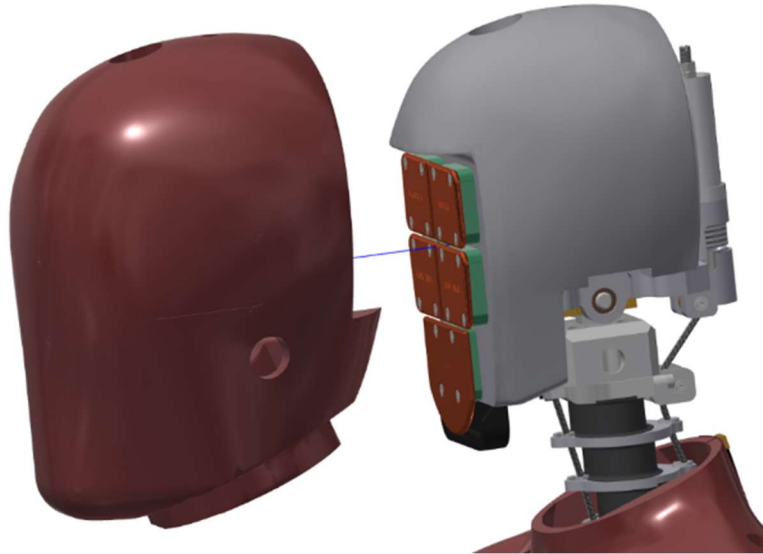

Figure 3-37. Install head skin into grooved contour on skull.
- 3.3.18 Install the head skin (with face insert installed) over the skull assembly. Position the posterior skin at the skull cap interface so that the skin seats into the grooved contour on the skull (Figure 3-37).